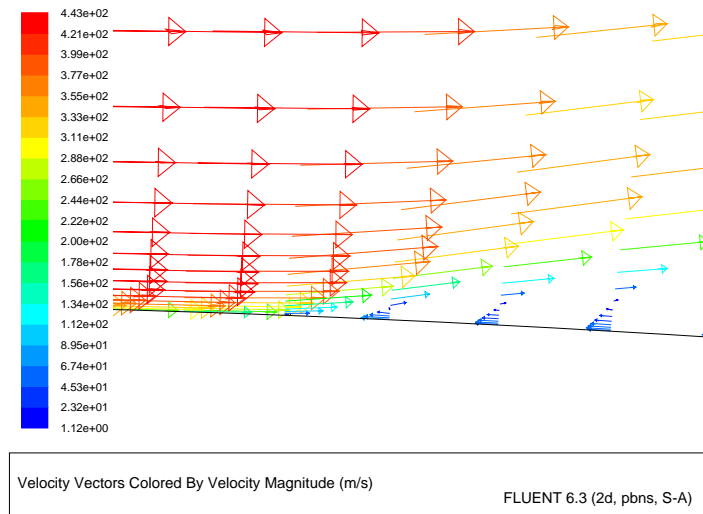

Figure 3.16: Plot of Velocity Vectors Downstream of the Shock
6. Plot velocity vectors (Figure 3.16).
- (c) Zoom in on the flow above the upper surface at a point downstream of the shock, as shown in Figure 3.16.
*Flow reversal is clearly visible in Figure 3.16.*